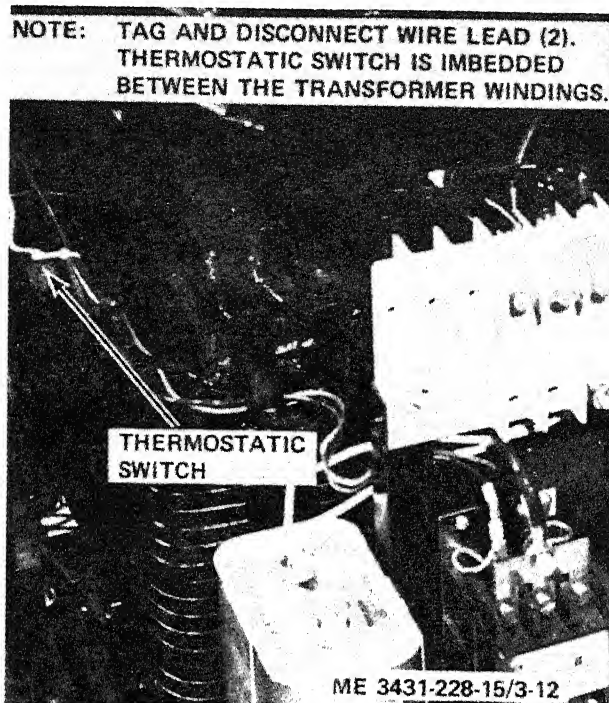

Figure 3-12. Thermostatic switch, removal and installation.
(1) Disconnect ac power from the welding machine.
(2) Remove the top and the housing from the welding machine (para 3-20).
(3) Refer to figure 3-12 and remove the thermostatic switch, being careful not to damage the transformer windings.
(1) Refer to figure 3-12 and install the thermostatic switch.
(2) Install the top and housing (para 3-20).